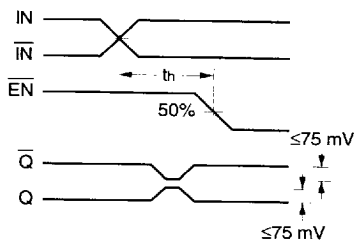

Figure 2. Hold Time
- The hold time is the minimum time that  $\overline{\text{EN}}$  must remain asserted after a negative going IN or a positive going  $\overline{\text{IN}}$  to prevent an output response greater than  $\pm 75\text{mV}$  to that IN/ $\overline{\text{IN}}$  transition (see Figure 2).